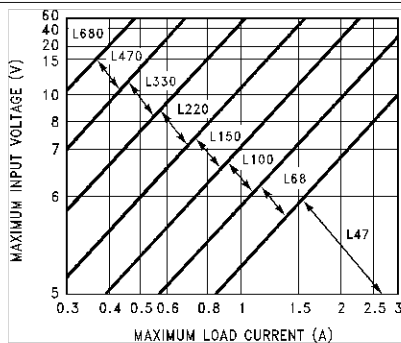
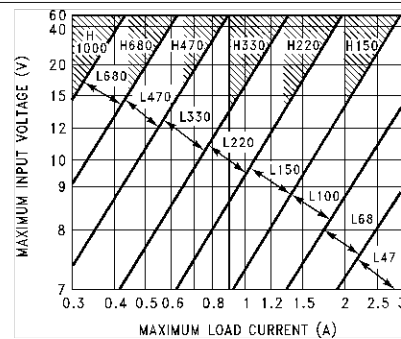
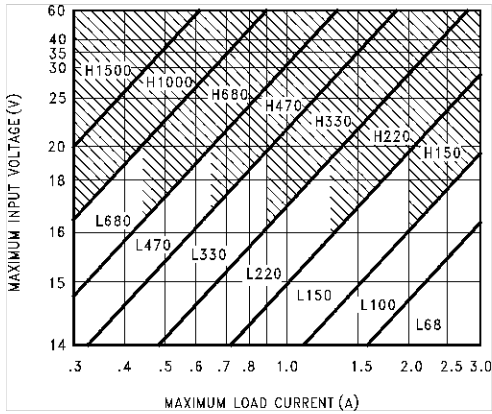
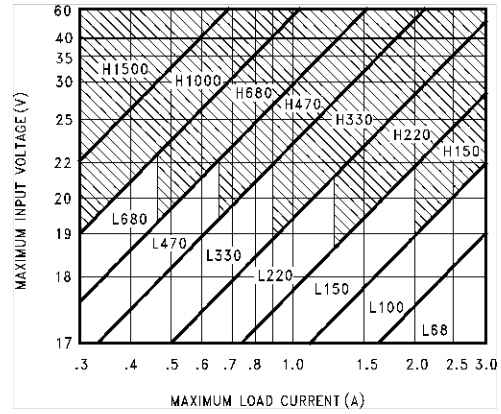

Figure 27. LM2576(HV)-3.3
Figure 28. LM2576(HV)-5.0
Figure 29. LM2576(HV)-12
Figure 30. LM2576(HV)-15
The inductor value selection guides in Figure 27 through Figure 31 are designed for buck regulator designs of the continuous inductor current type. When using inductor values shown in the inductor selection guide, the peak-to-peak inductor ripple current is approximately 20% to 30% of the maximum DC current. With relatively heavy load currents, the circuit operates in the continuous mode (inductor current always flowing), but under light load conditions, the circuit is forced to the discontinuous mode (inductor current falls to zero for a period of time). This discontinuous mode of operation is perfectly acceptable. For light loads (less than approximately 300 mA), it can be desirable to operate the regulator in the discontinuous mode, primarily because of the lower inductor values required for the discontinuous mode.
1. Select the correct Inductor value selection guide from Figure 27, Figure 28, Figure 29, or Figure 30. (Output
voltages of 3.3 V, 5 V, 12 V, or 15 V, respectively). For other output voltages, see the design procedure for the adjustable version. Use the selection guide shown in Figure 28.
- Identify the inductor value from the inductor code, and select an appropriate inductor from the table shown in Figure 27. Part numbers are listed for three inductor manufacturers. The inductor chosen must be rated for operation at the LM2576 switching frequency (52 kHz) and for a current rating of $1.15 \times I_{LOAD}$. For additional inductor information, see the *Inductor Selection* section. Inductor value required is 100 μH from the table in Figure 27. Choose AIE 415-0930, Pulse Engineering PE92108, or Renco RL2444.